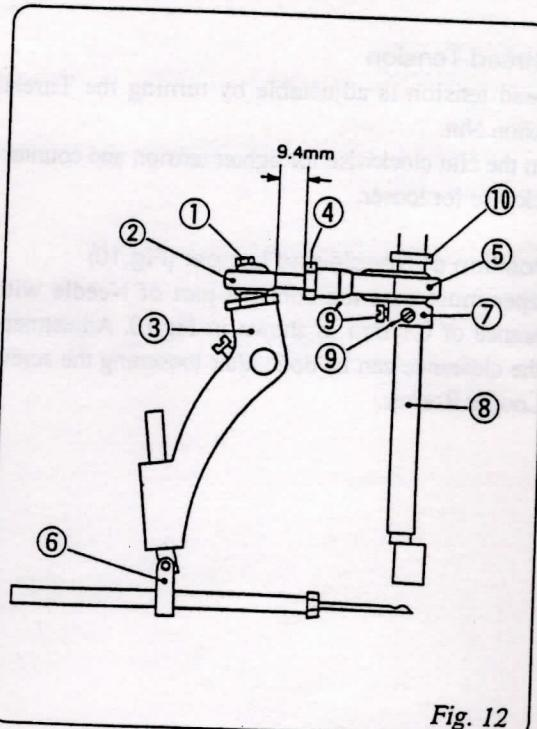
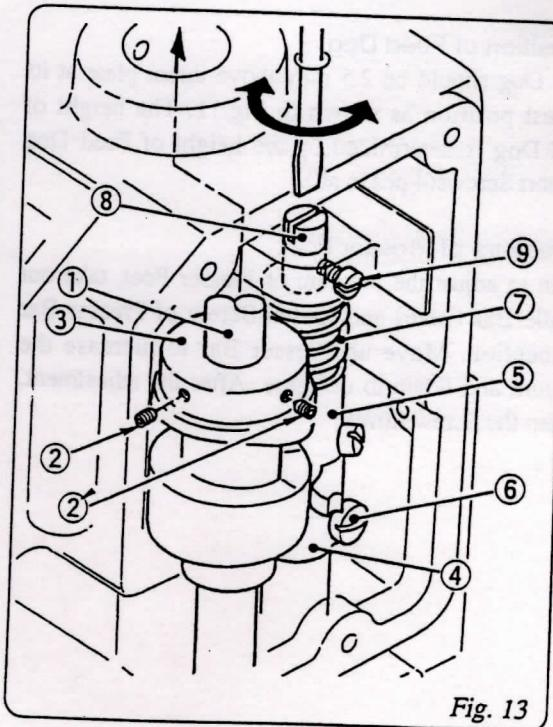

Fig. 12
Fig. 13
For replacement or adjustment of Ball Rod, refer to Fig.12.
The position of Needle is adjusted so that the distance between the point of Needle (at its highest position) and Throat Plate is 13 mm, after loosening screw on Needle Bar Connection Assembly ⑥ in Fig.12.
- ① Screw 11/64S40089
- ② Rod End 6APOS8
- ③ Needle Bar Lever 242051A
- ④ Nut 1N8
- ⑤ Connecting Rod Assembly 242011A
- ⑥ Needle Bar Connection Assembly 242101A
- ⑦ Eccentric Cam (part of Connecting Rod Assembly) 242011
- ⑧ Main Shaft 241101
- ⑨ Screw 11/64S40001
- ⑩ Spacer 241161
Adjust Looper Drive Cam ③ When necessary as follows:(Refer to Fig.13.).
- Apply the Screws ② and ③ on the taper of Main Shaft ①.
- Adjust Arm (B) ④, so that Looper Drive Cam ③ and Arm (A) ⑤ move smoothly. After adjusting, fix the Screw ⑥ tightly.
- The clearance between Looper Drive Cam ③ and Arm ⑤ is effected by Spring ⑦. Loosen Screw ⑨ and turn Spring Supporter ⑧ to adjust the pressure of Spring ⑦. After adjusting, tighten the Screw ⑨ to fasten Spring Supporter ⑧.
- ① Main Shaft 241102
- ② ③ Screw 15/64S28524
- ③ Looper Drive Cam 243012
- ④ Looper Rocker Shaft Arm (B) 243081
- ⑤ Looper Rocker Shaft Arm (A) 243071
- ⑥ Screw for Looper Rocker Shaft Arm (B) 11/64S40009
- ⑦ Spring 243131